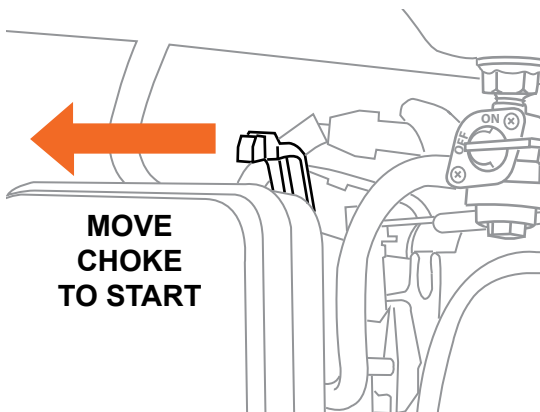

Figure 7
3. Turn the engine's choke lever to the START position (see Figure 7). Set the choke lever to the run position only when the engine has started or upon restarting a warm engine.